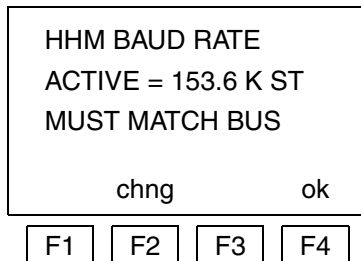

Figure 107. Initial HHM Baud Rate Configuration Screen
- Turn the HHM on. After the HHM completes its powerup sequence, the initial HHM Baud Rate screen is called up, Figure 107.